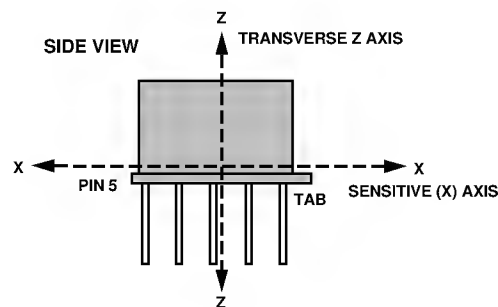

Figure 2a. Sensitive X and Transverse Z Axis
Sensitive Axis (X): The most sensitive axis of the accelerometer sensor. Defined by a line drawn between the package tab and Pin 5 in the plane of the pin circle. See Figures 2a and 2b.
The ADXL05 is a sensor designed to measure accelerations that result from an applied force. The ADXL05 responds to the component of acceleration on its sensitive X axis. Figures 2a and 2b show the relationship between the sensitive "X" axis and the transverse "Z" and "Y" axes as they relate to the TO-100